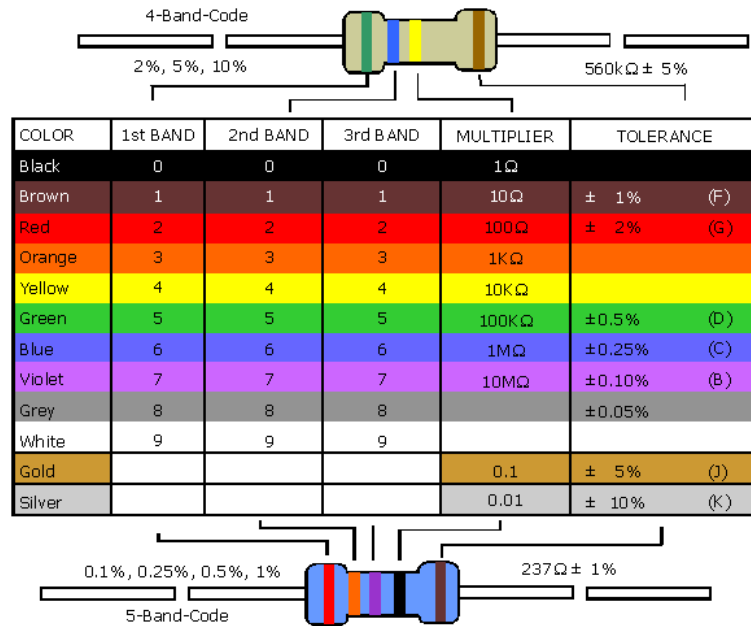

Figure 2. Resistor color code chart.
2. Find the value of each resistor using Figure 2 (below). The last color band is the tolerance.